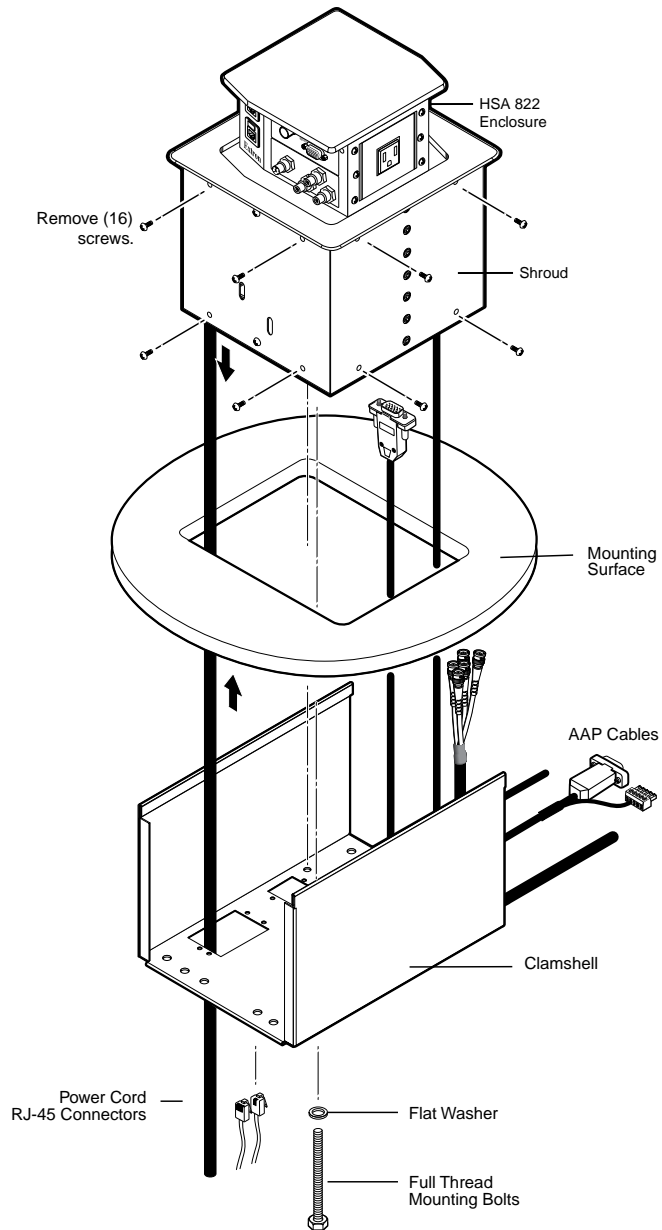

Figure 15. Removing the HSA 822 from the Table
8. On the underside of the table, remove the two bolts that secure the clamshell to the surface mount enclosure (see figure 15 on the next page). Lift the enclosure out of the table.